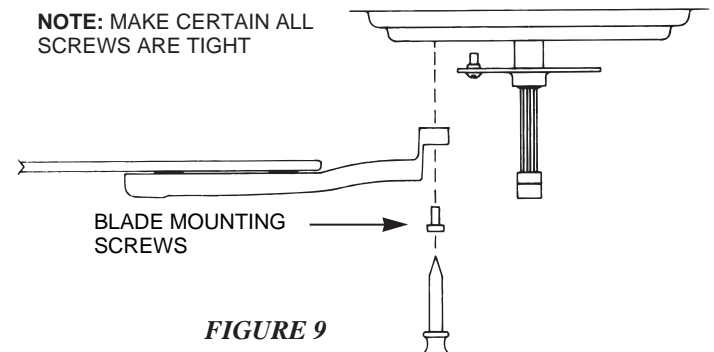

FIGURE 9
**B.** Remove the screws and rubber bumpers from the motor hub. Insert a mounting screw (provided) in hole in blade bracket. Use a screwdriver to hold in place. Align blade holes with mounting holes in hub by turning screw and readjusting blade bracket until screw mates with threaded hole in hub. Do not tighten until both screws have been put in blade bracket. Repeat for all blades. See Figure 9.